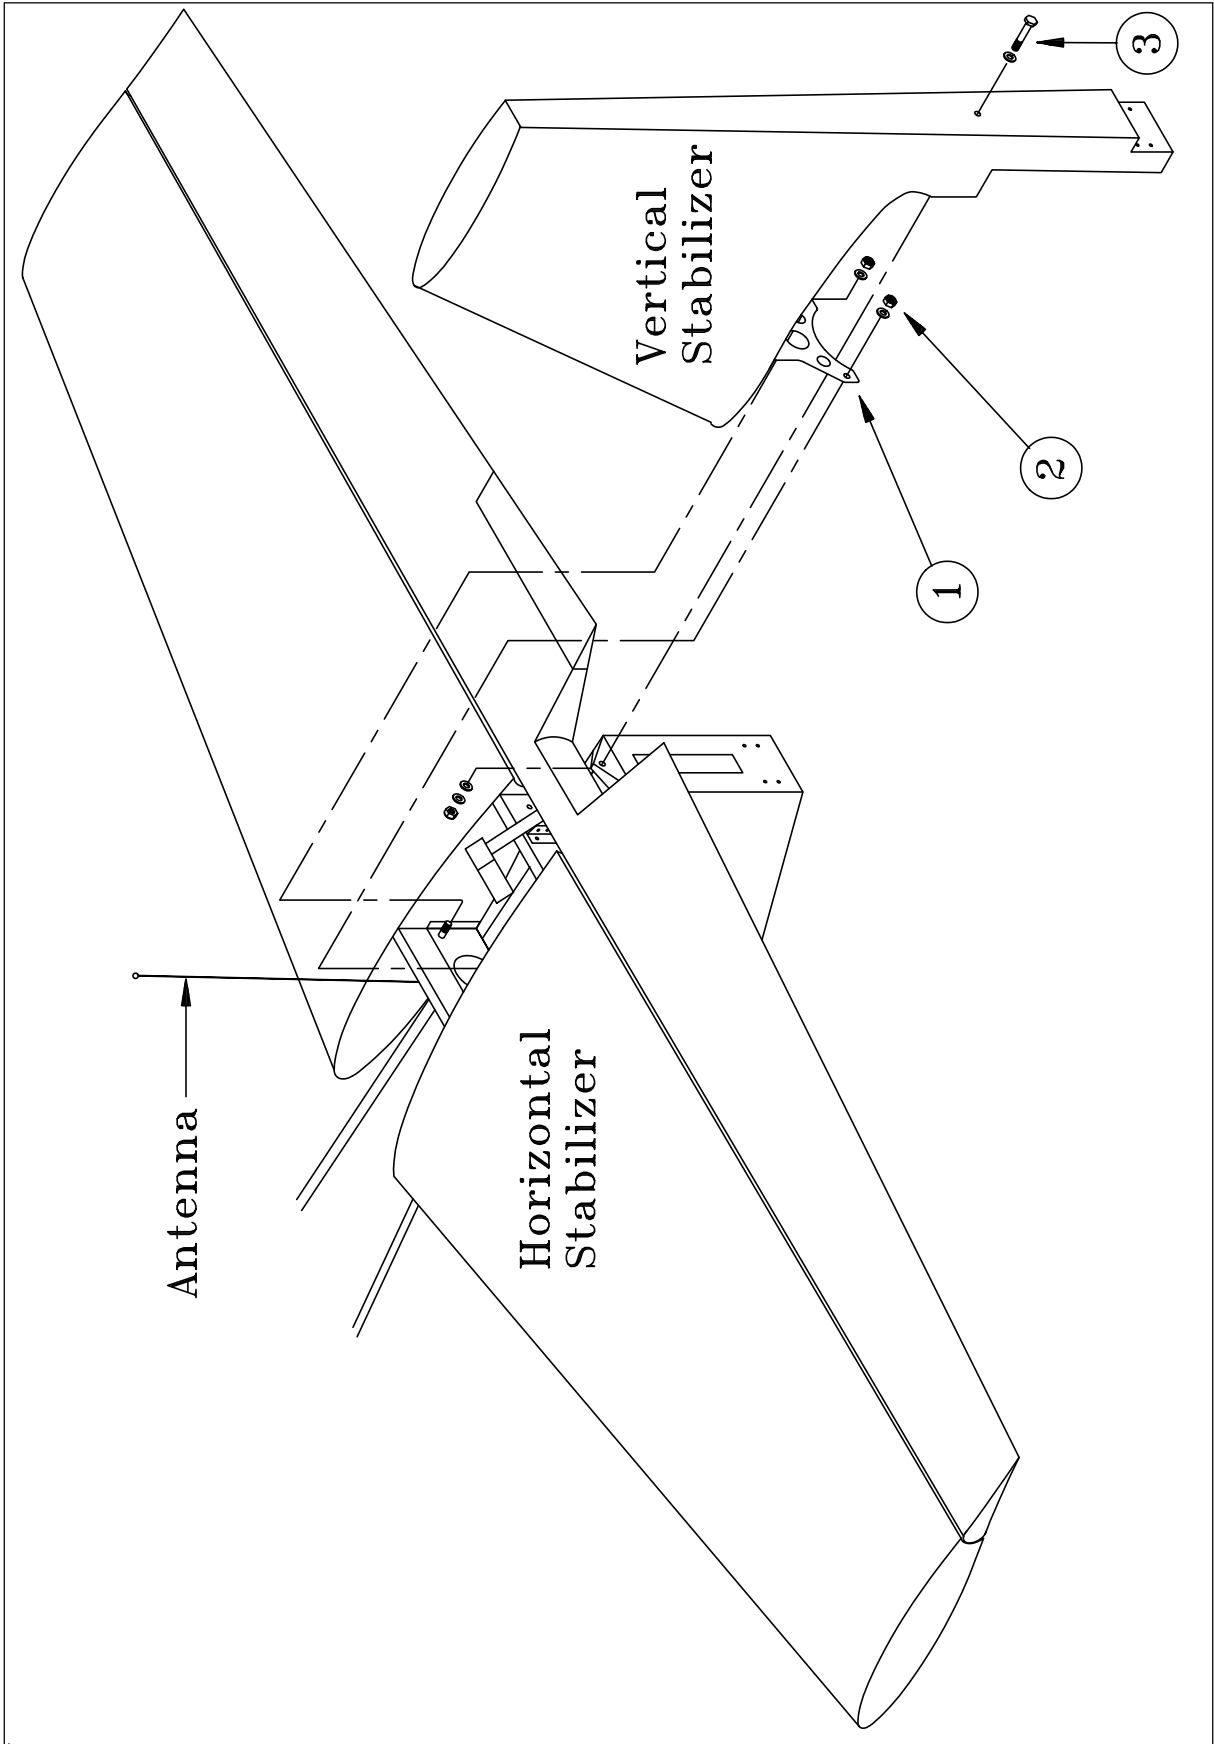

Figure 5
- 1 Slide the horizontal stabilizer with its front spar (1, Figure 5) into the attach brackets (4) on fuselage. The rear spar (2) is situated behind the rear attachment bracket (5). (Trim tab is on the right side.)
- 2 Slide in LN 9037-10054 front spar attachment bolts (8) with an additional DIN 125 M10 washer under bolt head from the front to the rear. These bolts are also used for the vertical stabilizer attachment. So do not apply stop nuts before the vertical stabilizer is fitted to the fuselage.
- 3 Slide in the rear spar attachment bolts (7) from front to rear. Use LN 9037-08042 bolts in connection with LN 9348-08 stop nuts and DIN 125 M8 washers up to Serial No. 93. From Serial No. 94 use LN 9037-10046 bolts in connection with LN 9348-10 stop nuts and DIN 125 M10 washers. Torque nuts for fastening.
- 4 Fasten the ground bonding lead (3) by means of the DIN 933 M5x12 bolt (6), the DIN 125 M5 washers and the LN 9348-05 stop nuts.